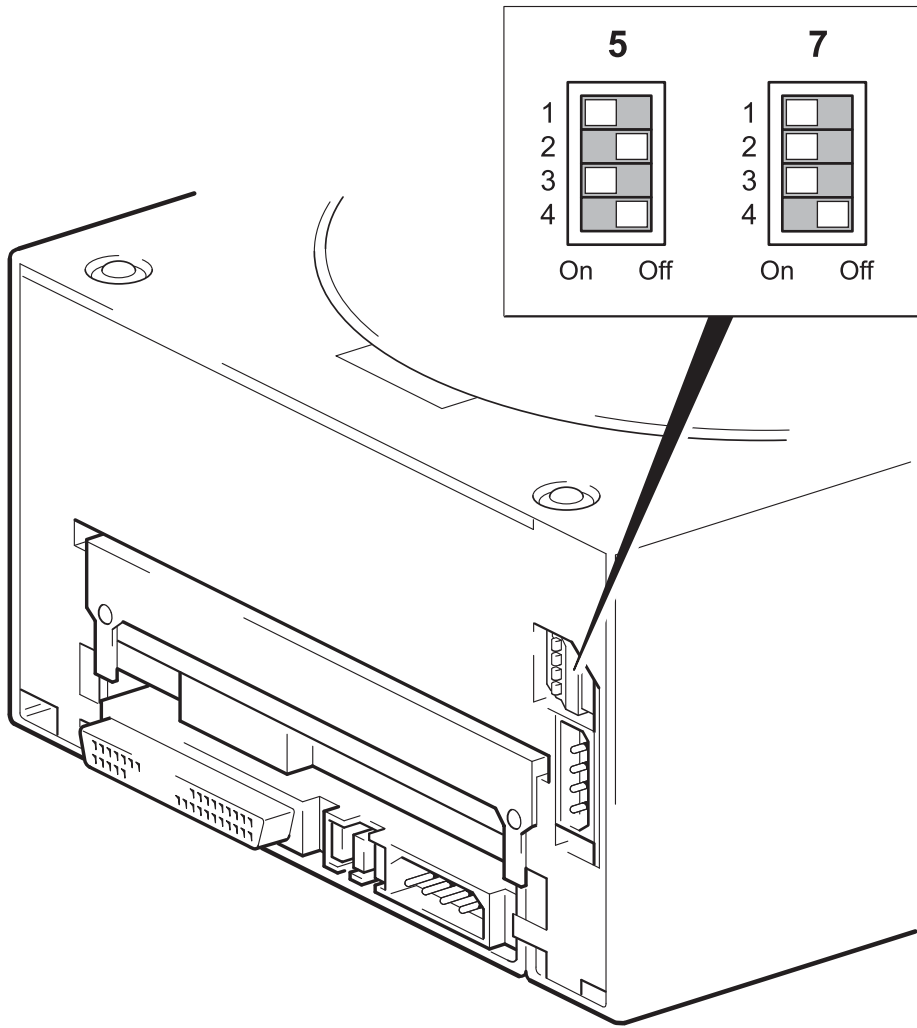

Figure 4: checking the option switch
- 1 Check that the autoloader option switch (top switch on figure 4) is set to the correct value, as shown in the above table. Only change the switch value to 5 for Sun workstations running Solaris v. 2.6 or below.
- 2 If the option switch is not set to the correct value for your system, change the configuration switches located on the back of the drive from the default settings, as shown in figure 4.